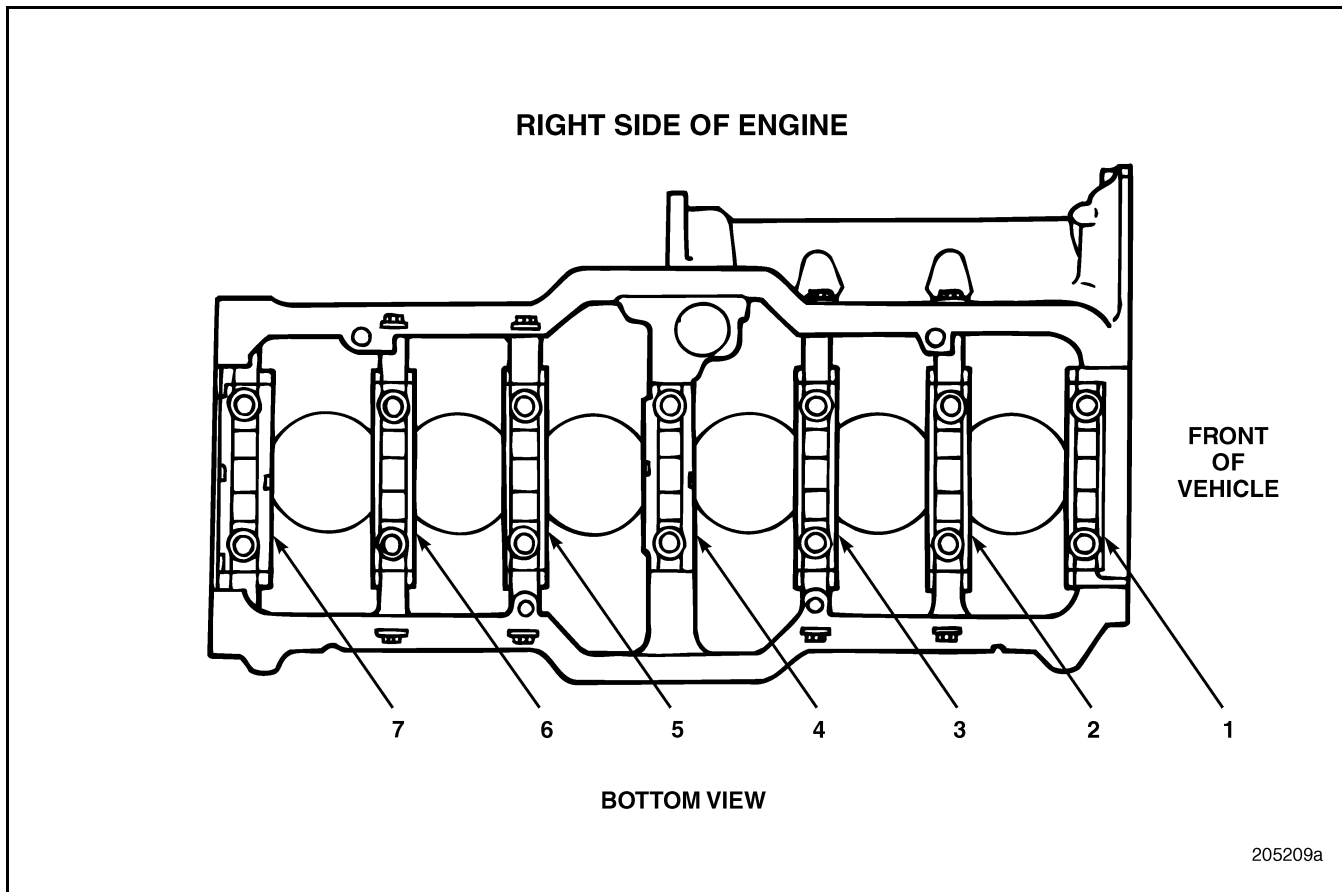

Figure 322 — Main Bearing Insert Part Numbers and Locations
4. Repeat the previous step to install the remaining upper inserts. Refer to Figure 322 for the part number and location of each bearing insert.